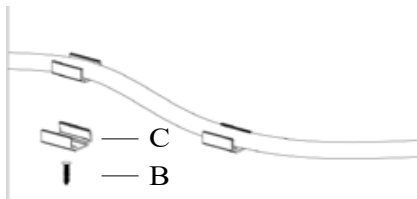

Figure 1
- Secure mounting clips with nails or screws provided with this product. (Figure 1. 2. 3 depends on the intended mounting means of this product, refer to the Accessories Part.)